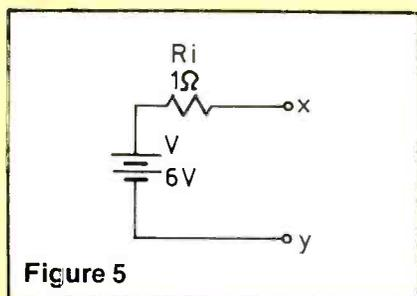

Figure 5
7. The maximum amount of power that can be delivered to a component that is connected between  $x$  and  $y$  in Figure 5 is